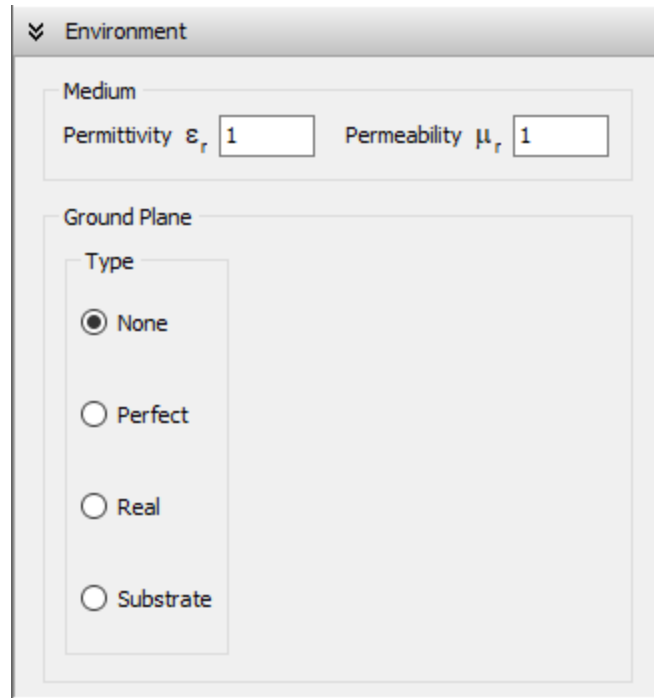

Fig. 1: “None” option in the Ground Plane box of the Environment panel.
2. Select the **None** (free space) option in the **Ground Plane** box (see **Fig. 1**).